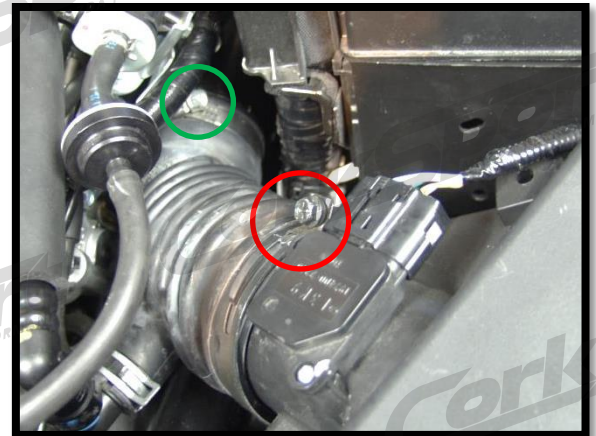

Figure 2b
- b) Loosen the two (2) 10mm hose clamps on the factory rubber intake elbow (Figure 2b).
- b) Loosen the two (2) 10mm hose clamps on the factory rubber intake elbow (red circle and green circle in Figure 2b).
- r) Tighten the two (2) 10mm hose clamps on the factory rubber intake elbow (red circle and green circle in Figure 2b).